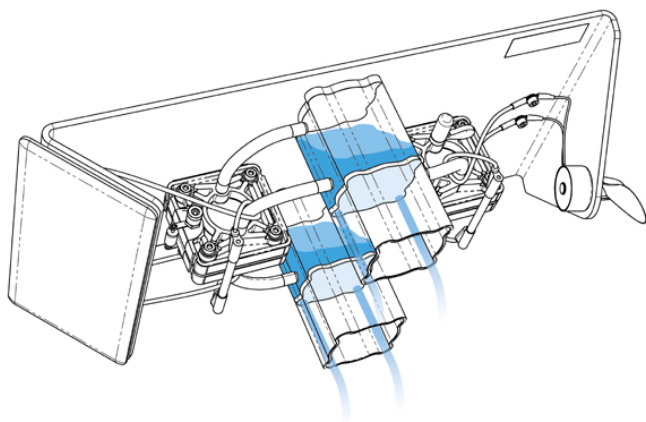

Fig. 7: Draining the gas storage tanks
- Drain the gas storage tanks, as shown in Figure 7. To this end, swivel the model back and forth a few times until all water has drained from the storage tanks.